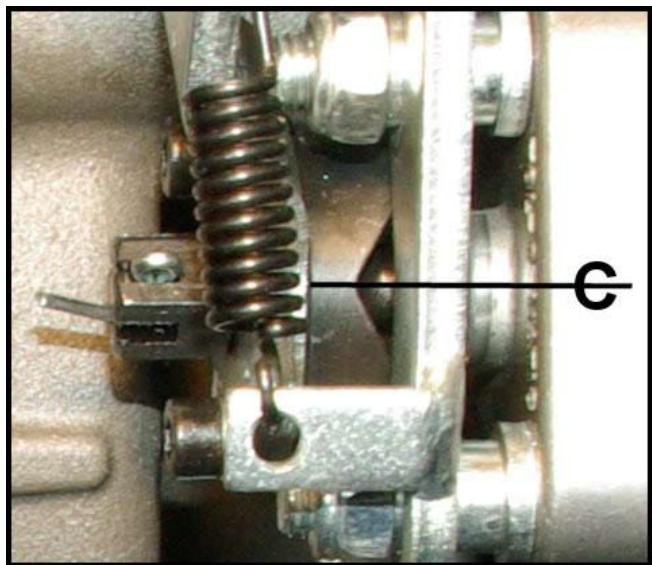

Figure 7-22. Pin Centered in "V-Groove".
4. Adjust the cable at the transmission until the cam levers are actually starting to pre-load the return springs and the cam lever actuation pin on the caliper, is centered in the "v-groove" of the cam. Figure 7-22.